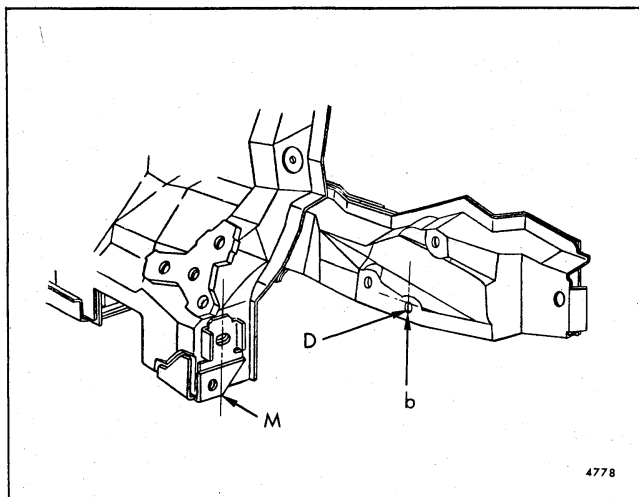

Fig. 3-7-Reference Points at Left Front Rail - All "H" Styles
b. 7-13/16" Left side - center of steering gear lower forward attaching bolt hole (see Fig. 3-7).